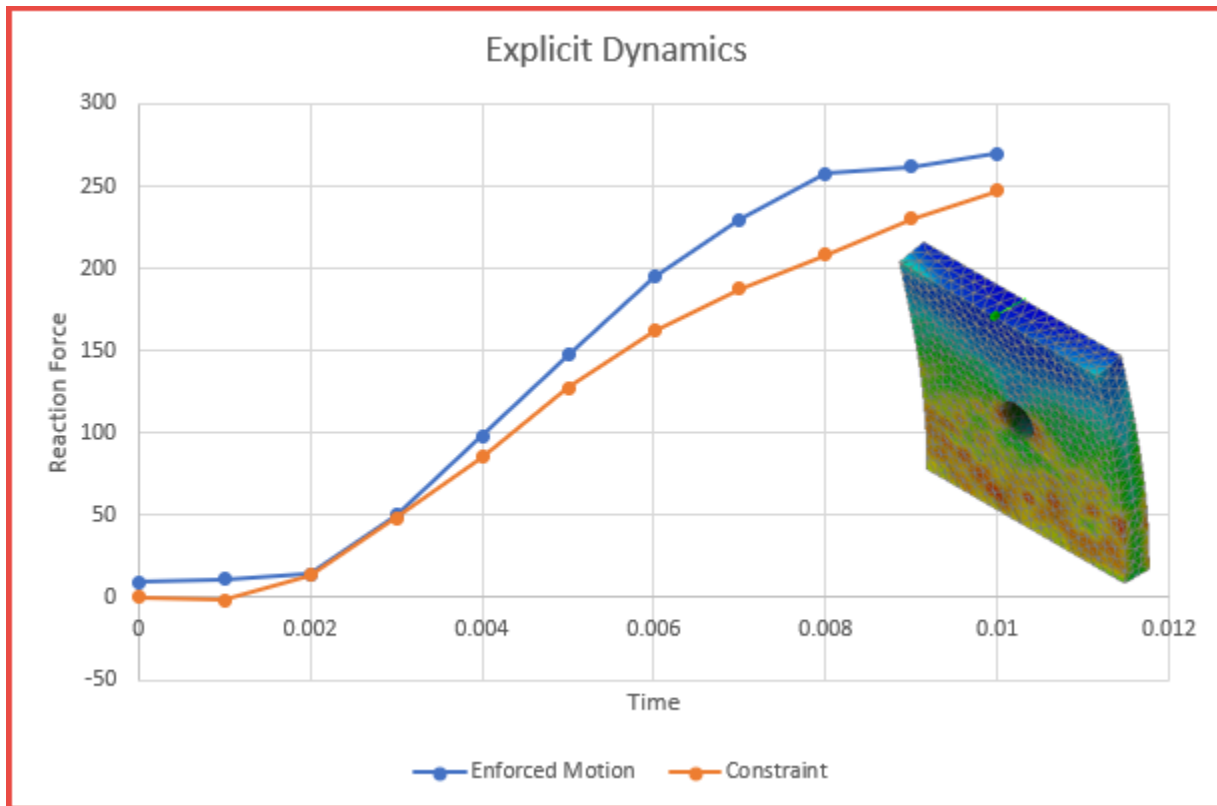

Figure 89 - Sum of reaction forces extracted from an explicit dynamics analysis and plotted in Excel.
3. Create table of results for reports or for graphs. For example, the sum of the reaction forces from a dynamic analysis can be written down, one-by-one, from the Inventor interface by using the SPC Summation dialog and then typing the values into Excel. Or use FNO Reader to extract the reaction force sum to a CSV file and import into Excel. See Figure 89.